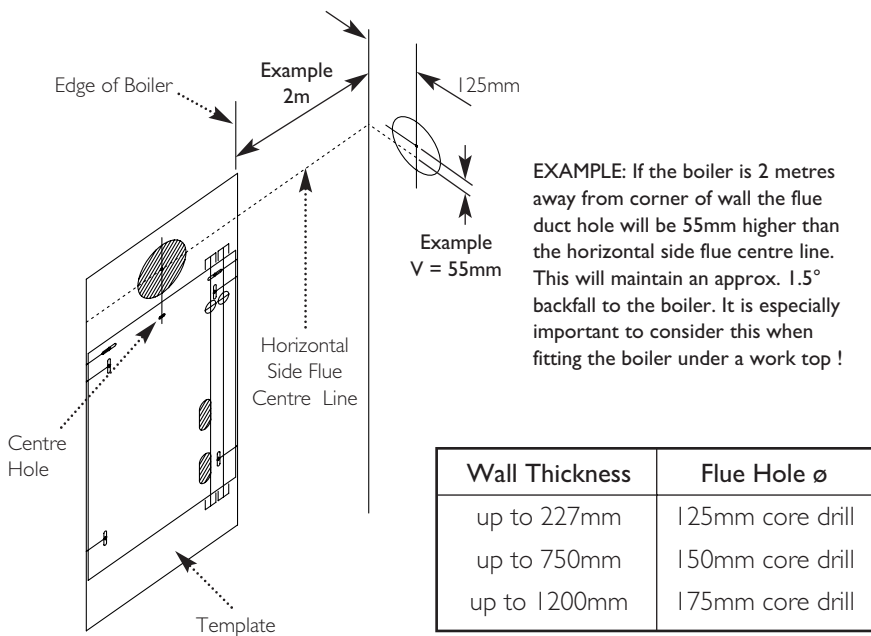

Fig. 20
**For side exit:** project the horizontal side flue centre line into the corner of the room and along the wall to where the flue hole will be drilled. (Fig. 20).
4. Cut the hole for the flue (minimum diameter 125mm, see table (Fig. 20) for wall thicknesses and flue hole diameters).